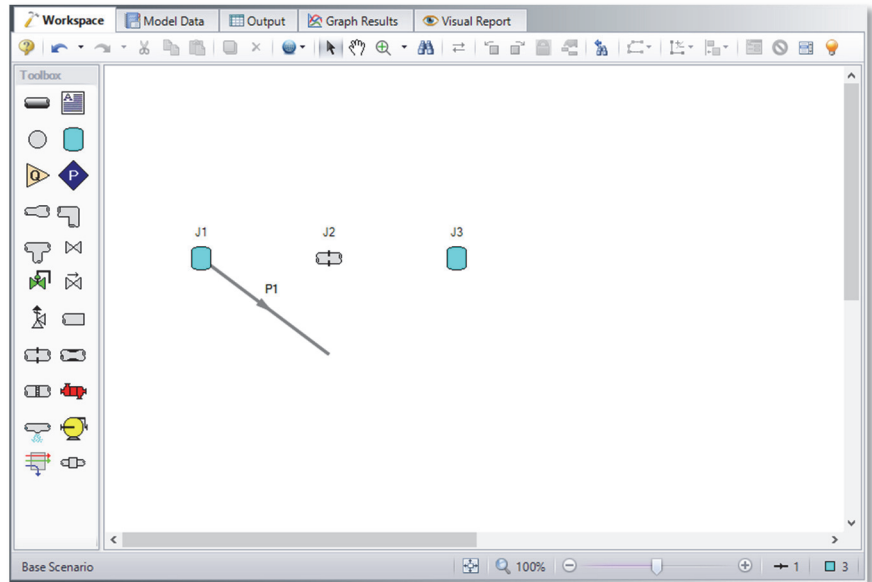
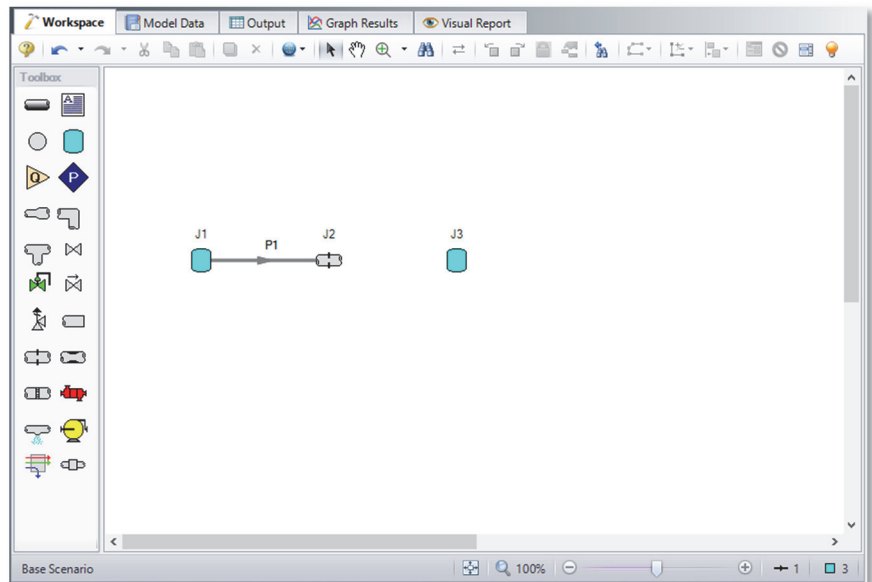

Figure 2.5d Walk through model with pipe partially connected
Figure 2.5e Walk through model with first pipe connected
- **To place the pipe between J1 and J2,** use the mouse to grab the pipe in the center, drag it so that its left endpoint falls within the J1 Tank icon, then drop it there (see Figure 2.5d). Next, grab the right endpoint of the pipe and stretch the pipe, dragging it until the endpoint terminates within the J2 Orifice icon (see Figure 2.5e).